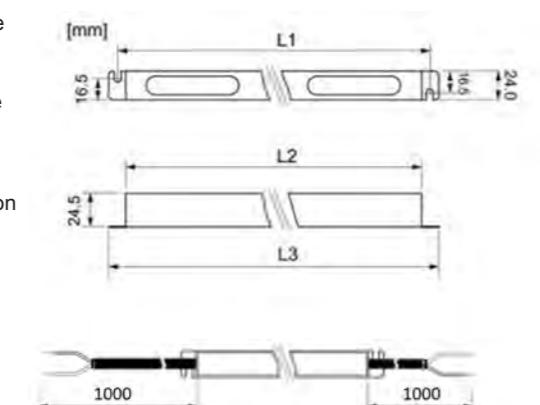

Figure 4: Dimensioned drawing
- Prepare boreholes in the groove for the fastening of the light inserts. Observe dimensioned drawing for the distance of the boreholes (Figure 4).